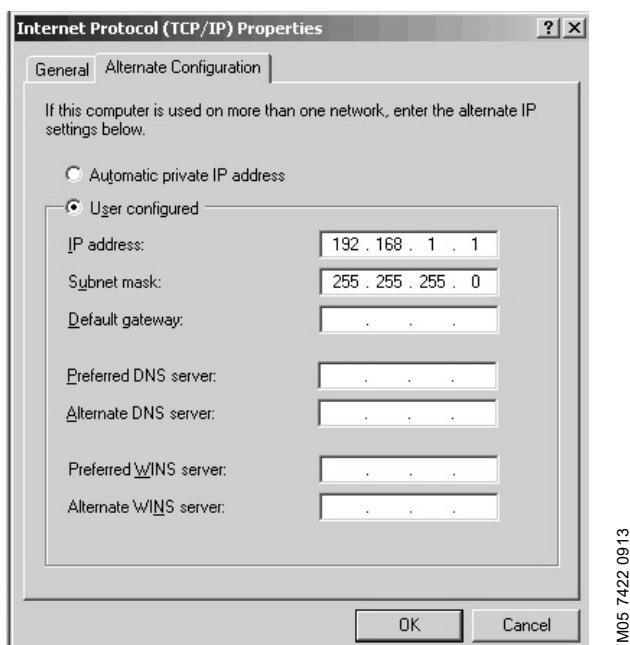

Fig. 1 Example from Windows
7. Configure an IP address and subnet mask to be used by your PC. See fig. 1.